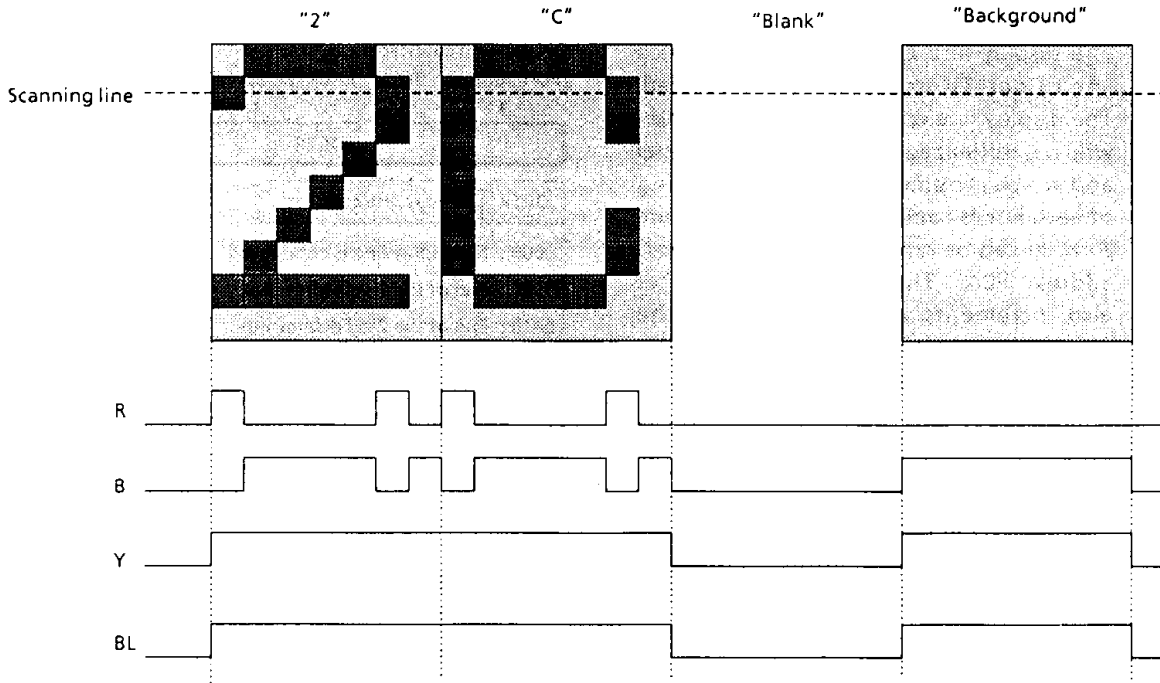
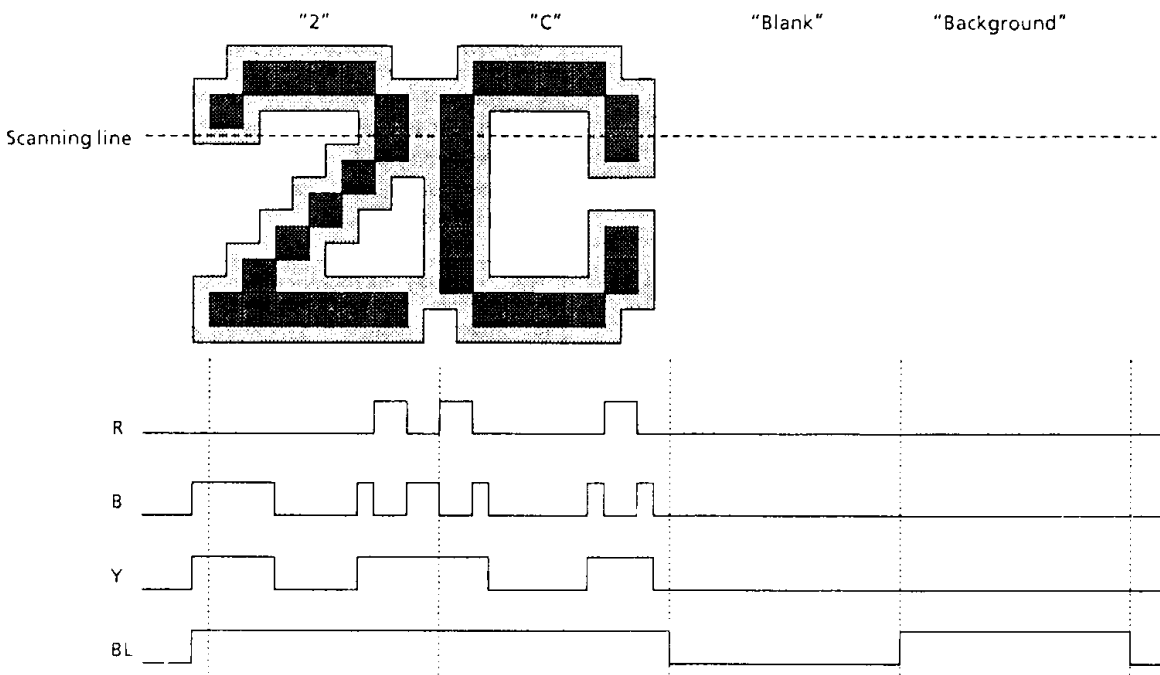

Figure 3-15. Example of OSD Display and Its Wave Form (1)
Figure 3-16. Example of OSD Display and Its Wave Form (2)
Figure 3-15 shows display example (1). The conditions for this example are as follows:
- ① Display data: 2, C, blank data (character code 7FH), background (character code 7EH).
- ② Color data: RDT = 1, BDT = 0, GDT = 0.
- ③ Background color data: BRDT = 0, BBDT = 1, BGDT = 0.
- ④ Fringing and smoothing disabled.
- ⑤ This screen display example is controlled by the R, B and BL signals.
- Figure 3-16 shows display example (2). The conditions for this example are as follows:
- ④ Fringing enabled and smoothing disabled.
- ⑤ This screen display example is controlled by the R, B and Y signals.